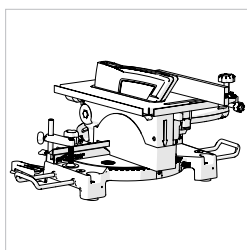

Fig. 18
- Loosen the Table Height Adjustment Screw (**Fig.18**) and lower the table to its lowest position.